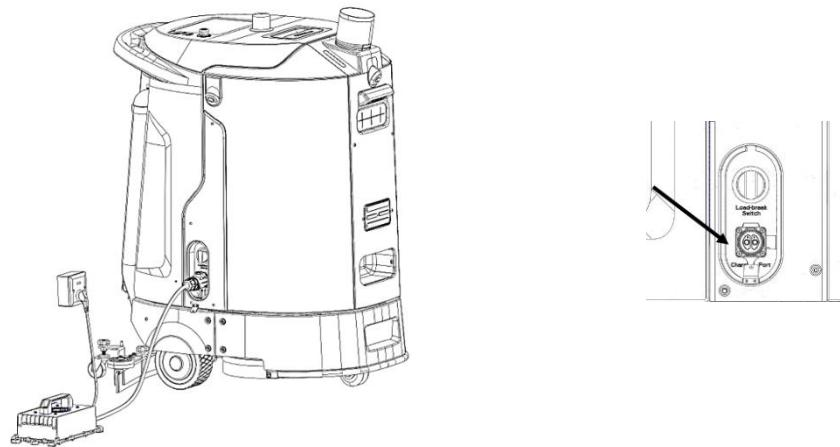

FIG.33
- 4) Connect the input plug of the charger to the AC power source as shown in FIG.33.